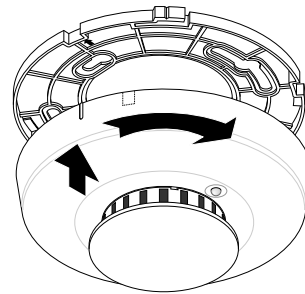

Figure 4. Mounting
- Line up the raised tab on the side of the detector with the arrow on the mounting base. See Figure 4.